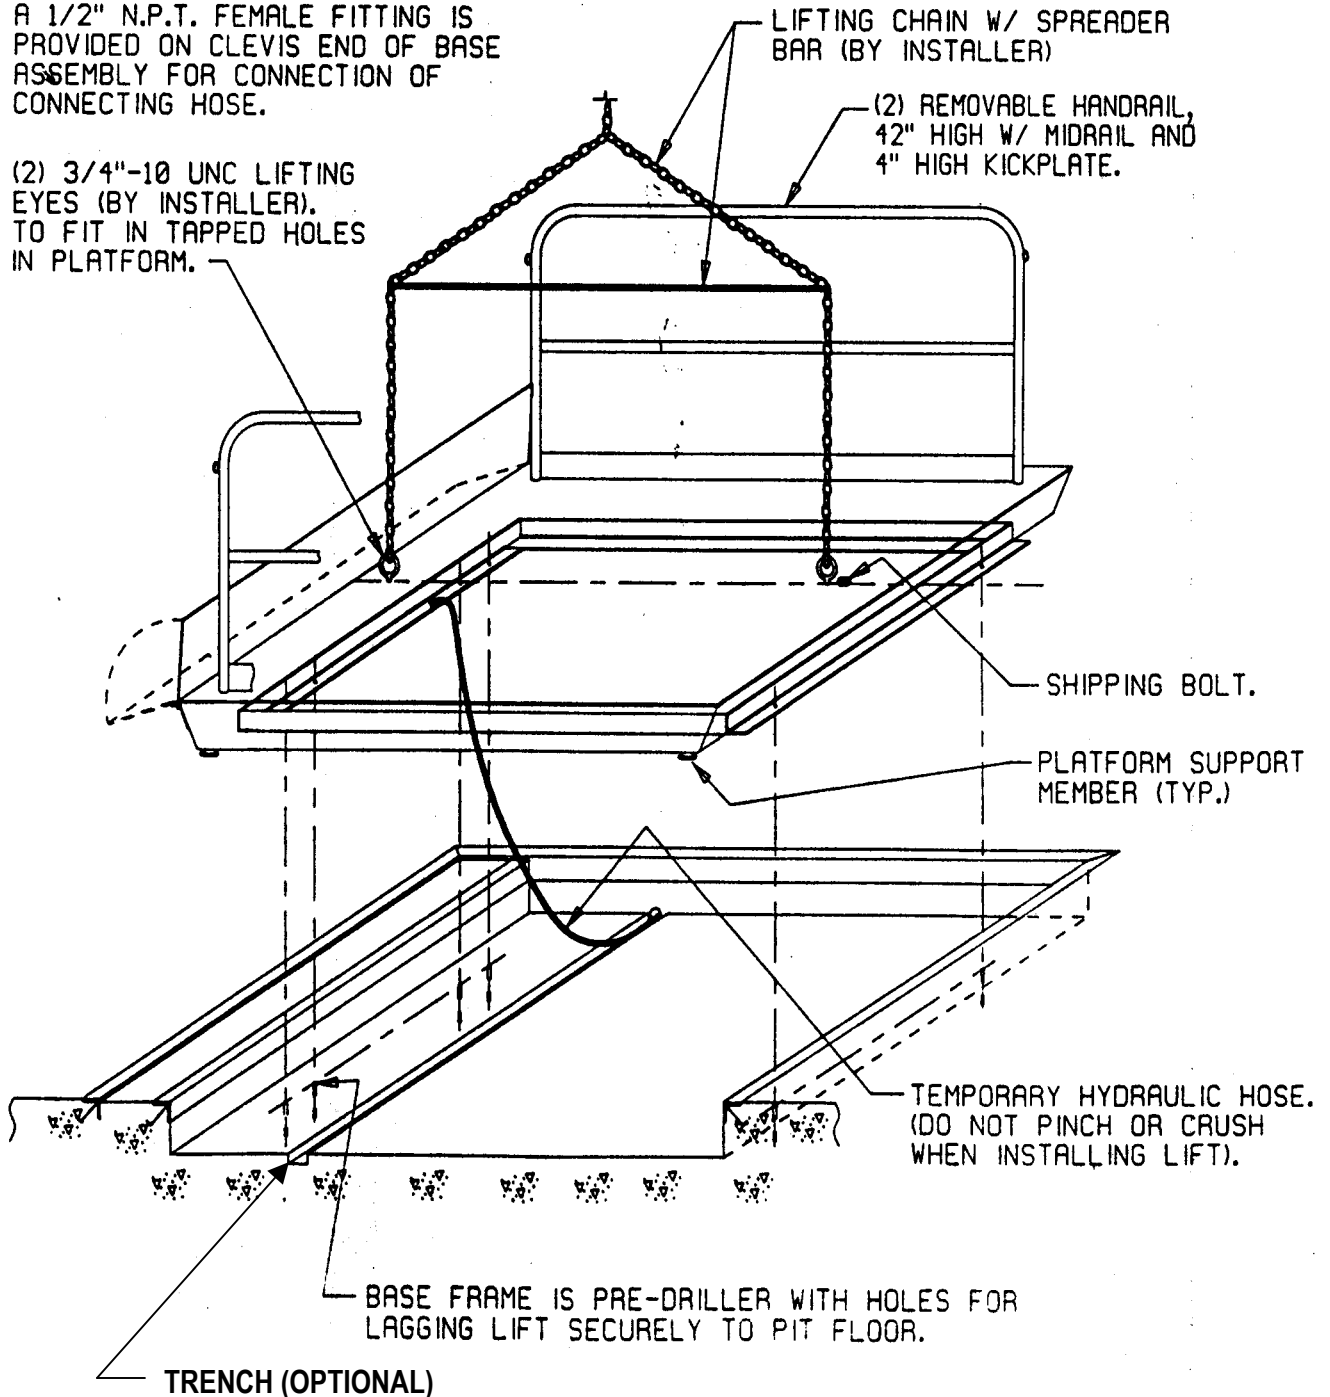

Figure 12 Lifting and Installation
2. Using 3/4" 10 UNC eyebolts and a chain spreader, place the lift into the pit as illustrated in Figure 12.
1. Place the handrails in the platform sockets as shown in Figure 12.